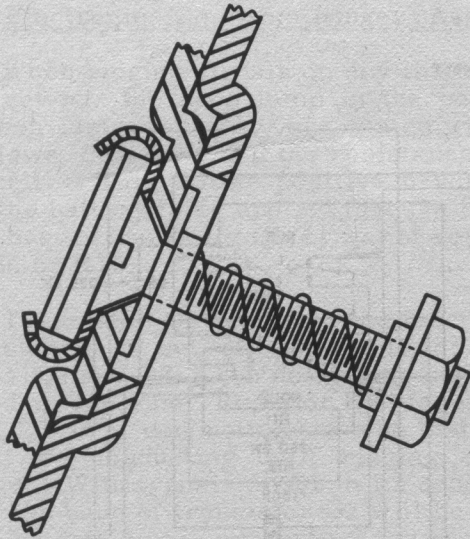

Figure 3. Method of Mounting Designation Strip.
2.05 A 3/8 inch, white, designation strip, covered by clear plastic, allows identification of each line. The Type 2C unit is equipped with two of these strips. The strip is mounted by two spring-loaded bolts (Figure 3). To remove the designation strip, pull it away from the recess in the panel and slip out the strip and clear plastic cover. The designation may be stamped, printed, or hand lettered.